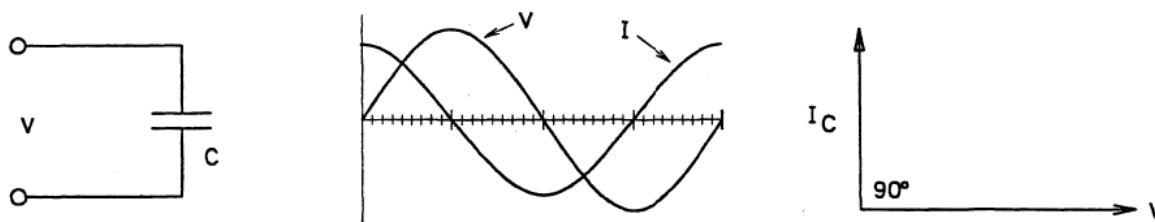

Figure 4 – Current leads voltage in a capacitor
33. In a purely capacitive circuit on a.c., the current is limited by the capacitive reactance (X_c) of the capacitor. All of the energy going into the circuit is stored in an electrostatic field and returned to the mains during each quarter cycle, so the total energy consumption is zero. Although the total energy consumption is zero, current still flows in the circuit – (it can be measured with a normal ammeter), but it is 90° out of phase with the voltage. The current in a capacitor LEADS the voltage by 90° as shown in Figure 4.